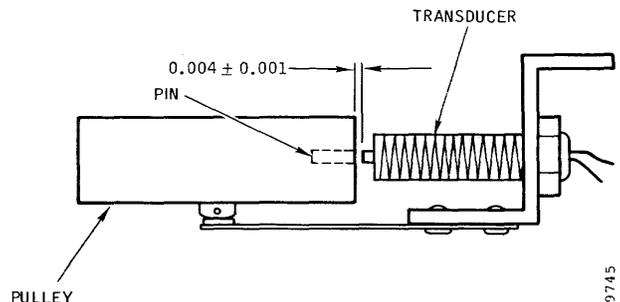

Figure 3-25. Speed Transducer Gap Limits
The Speed Transducer is a magnetic pickup coil located adjacent to the spindle pulley (Figure 3-25) that generates one speed pulse per revolution of the spindle. The pickup is from a carbon steel pin embedded in the spindle pulley over which the transducer is aligned. Transducer adjustment is usually necessary only if there has been shipping damage or if the transducer has been replaced.
4. Using nonmagnetic shim material as a feeler gauge, check the gap between the transducer and the carbon steel pin in the spindle pulley. It should be  $0.004 \pm 0.001$  inch, as indicated in Figure 3-25. Also check that the end of the transducer coil is aligned with the pin.